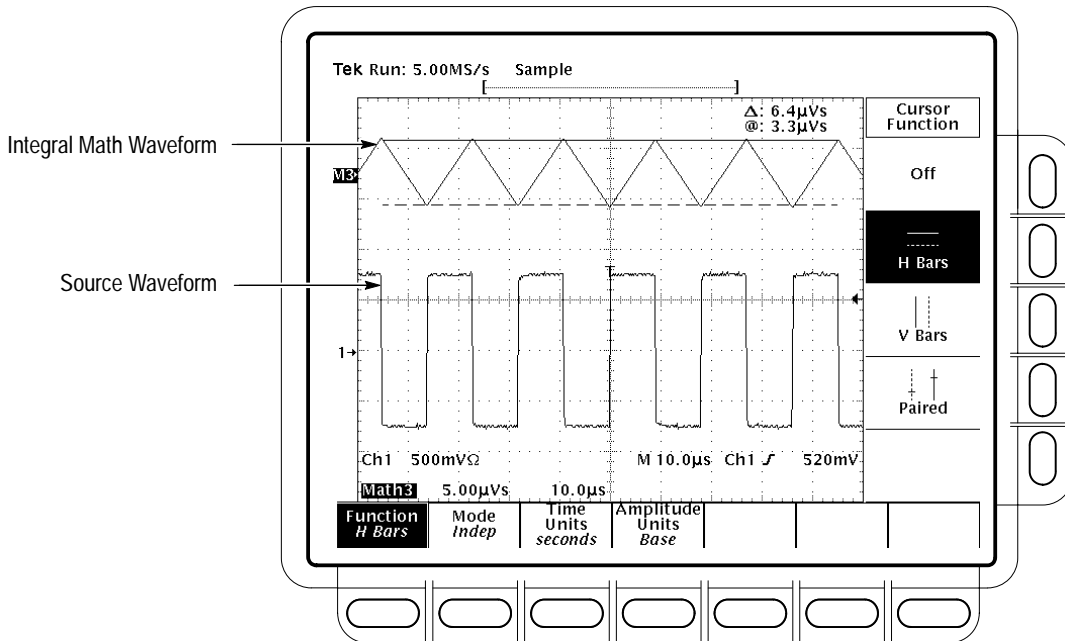

Figure 3-108: H Bars Cursors Measure an Integral Math Waveform
6. Read the integrated voltage over time between the cursors in volt-seconds from the **Δ**: readout. Read the integrated voltage over time between the selected cursor and the reference indicator of the math waveform from the **@**: readout. (See Figure 3-108.)